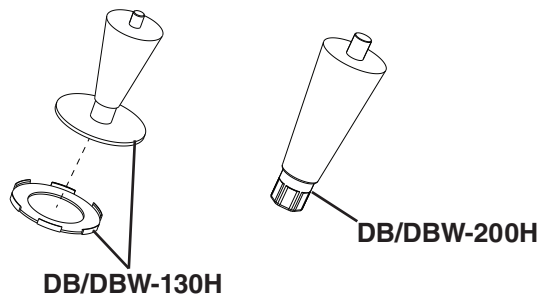

Fig. 2
- 1) Attach the 4 adjustable legs to the bottom of the appliance. See Figs. 2 and 3.